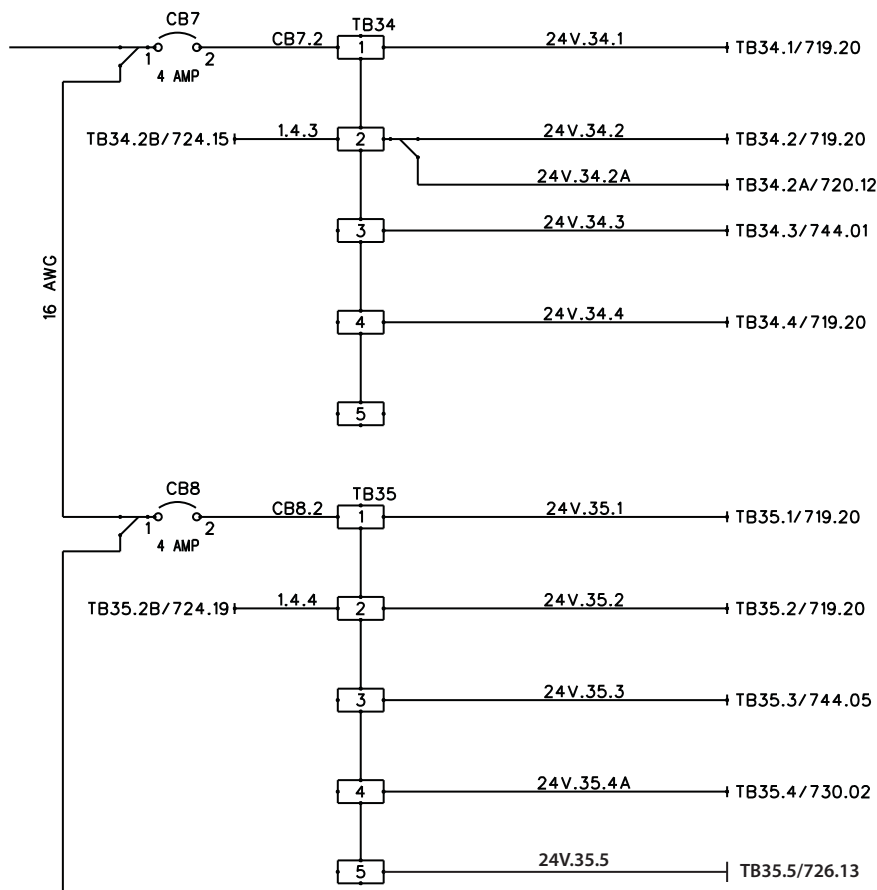
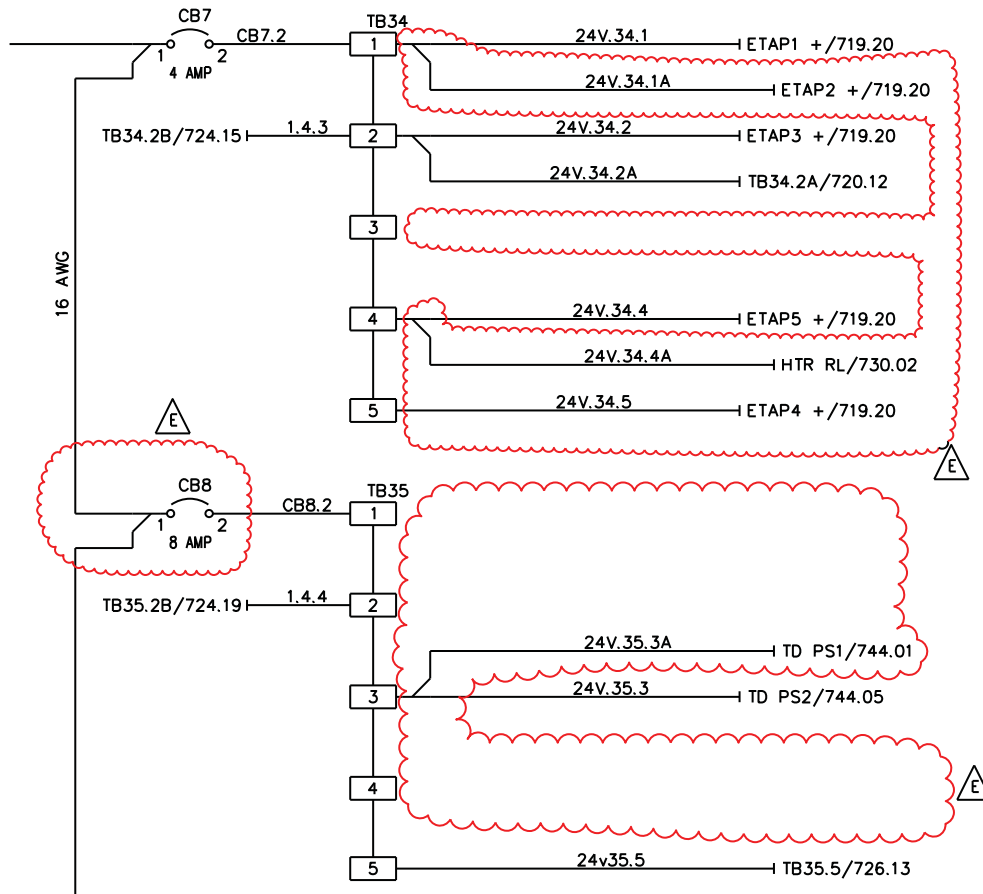

Figure 1: Wiring Before Changes on CB7 and TB34. Current Rig 1202.
Figure 2: Wiring After Changes CB7 and TB34. Current Rig 1202.
- See Figure 1 below and Figure 2 on page 3.
1. Replace CB8, 4A circuit breaker with 8A circuit breaker supplied with the kit. See Figure 2.